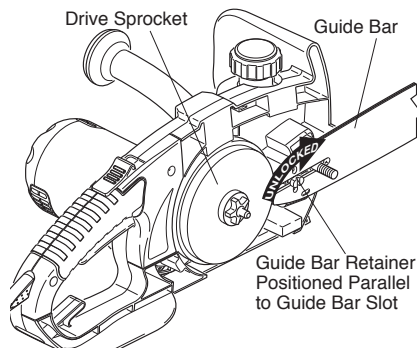

Figure 2 - Unlocking Guide Bar Retainer
3. Rotate guide bar retainer so that it is positioned parallel to guide bar slot (see Figure 2).
4. Install guide bar onto saw body. Assemble center slot of guide bar onto guide bar bolt and guide bar retainer. **Note:** Make sure the head of the guide bar retainer slides through the guide bar slot as shown in Figure 2.